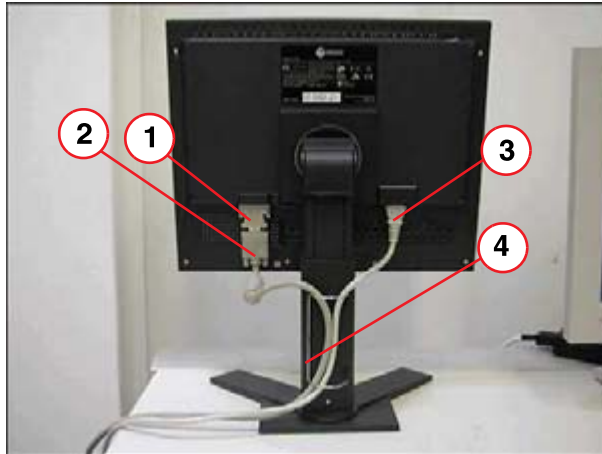

Fig. 54: Eizo Radiforce R11 monitor (back)
- Monitor 2 must be connected according to the figure via a DVI adapter (part number 77 48 531) (Fig. 54 / p. 49) and a 3-m SVGA/BNC monitor cable (part number 30 79 035) which is provided with the Eizo monitor to the BNC outputs at the video splitters (connections R OUT, B OUT, G BAS OUT, SV OUT, SH OUT) (Fig. 85 / p. 74). The live monitor is connected to the front video splitter and the reference monitor is connected to the back splitter.
- The back of monitor 2 is connected via a DVI adapter (part number 77 48 531) (Fig. 54 / p. 49) and a 3-m SVGA cable (part number 30 89 496) to the PC-OUT output (SVGA) of the scan converter.